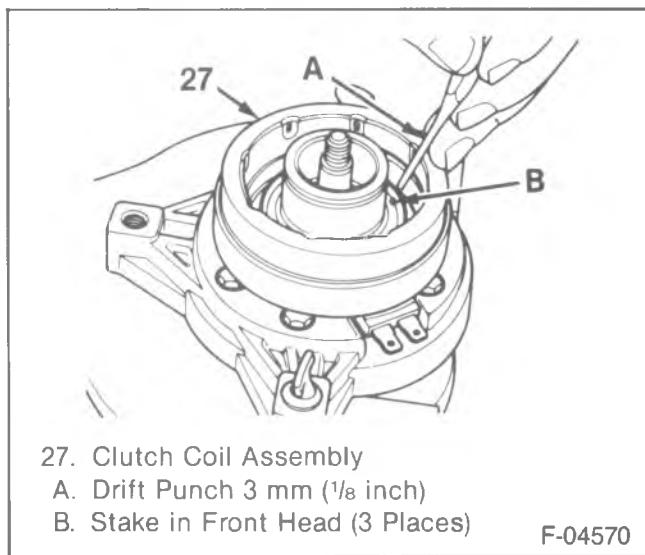

Figure 19—Staking the Clutch Coil to the Front Head
- Be sure J-8433-1 and the clutch coil assembly (27) stay "in line" during installation.
- When the clutch coil assembly (27) is seated on the front head (33), use a 3 mm ($\frac{1}{8}$ -inch) diameter drift punch to stake the head (33) at 3 places, 120 degrees apart to assure the clutch coil assembly (27) remains in position (figure 19).